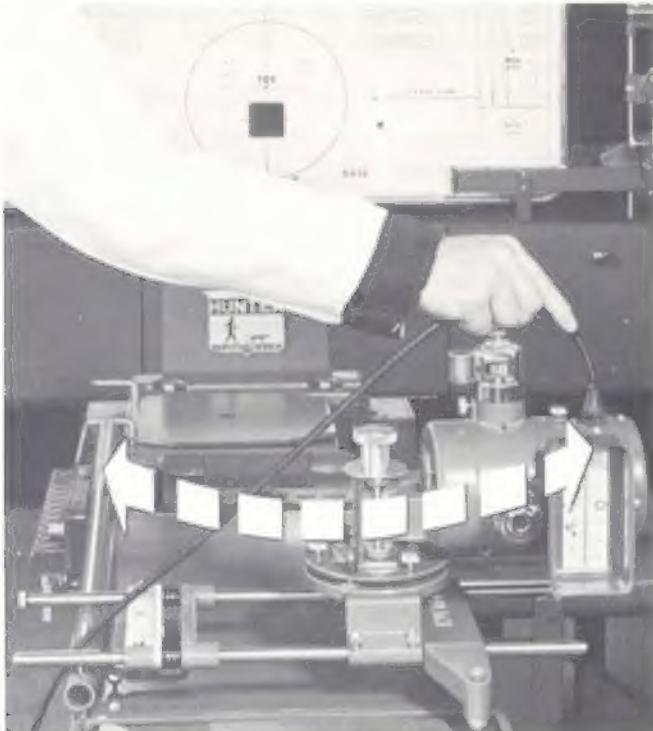

FIGURE 16
- 8. TO CHECK ONE PAIR OF THE FOUR TOE LIGHT BEAMS:** Use the same marked spot that was made in above operations. Holding cord as in Figure 16, slowly and carefully swing the projector head 180° so that **opposite light beam** crosses on the mark.